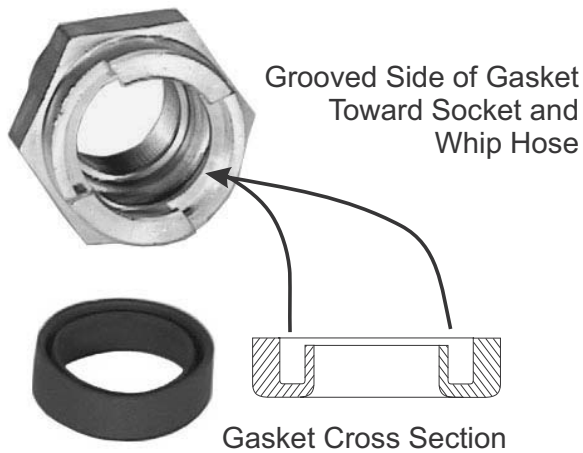

Figure 11-4. Insert Q.D. Gasket into Q.D. Socket.
2. If the old Q.D. Gasket (15) was removed, insert a new one in the Q.D. Socket (14).
- a. With the grooved face of the Gasket (15) toward the Q.D. Socket (14) and Whip Hose (13), insert the new Gasket (15) into the Socket (14). Refer to Figure 11-4.